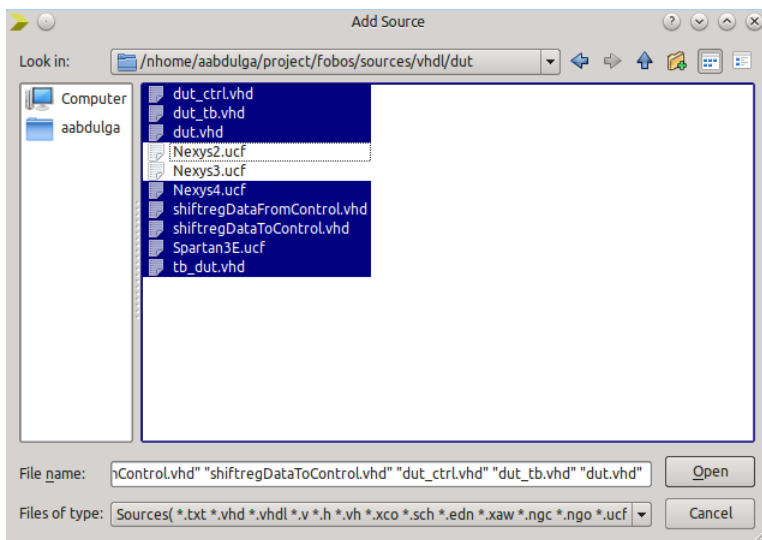

Figure 4.8: DUT Add Sources
3. Repeat the previous process to add all vhd files from `$fobos/sources/vhdl/DUT` and make sure to add the appropriate UCF file depending on the DUT board used (See Fig 4.8).